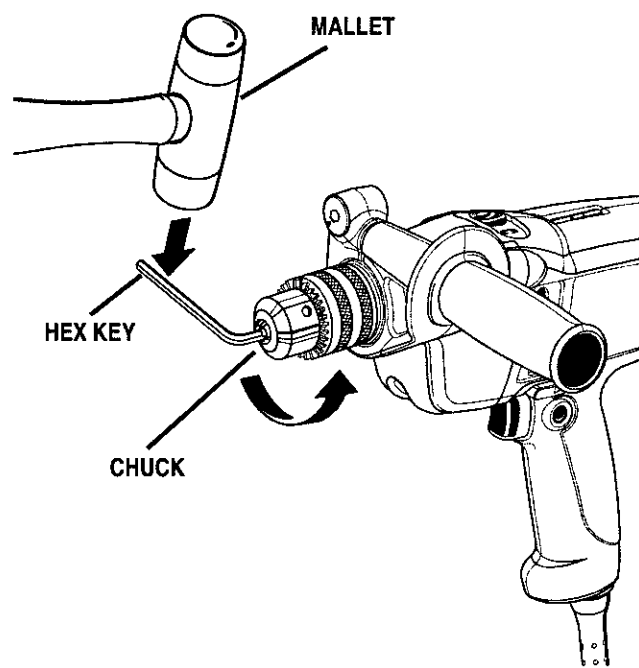

Fig. 12
See Figure 12.
- Tap the hex key sharply with a mallet in a counterclockwise direction. See Figure 12.
- It can now be unscrewed by hand. See Figure 12.